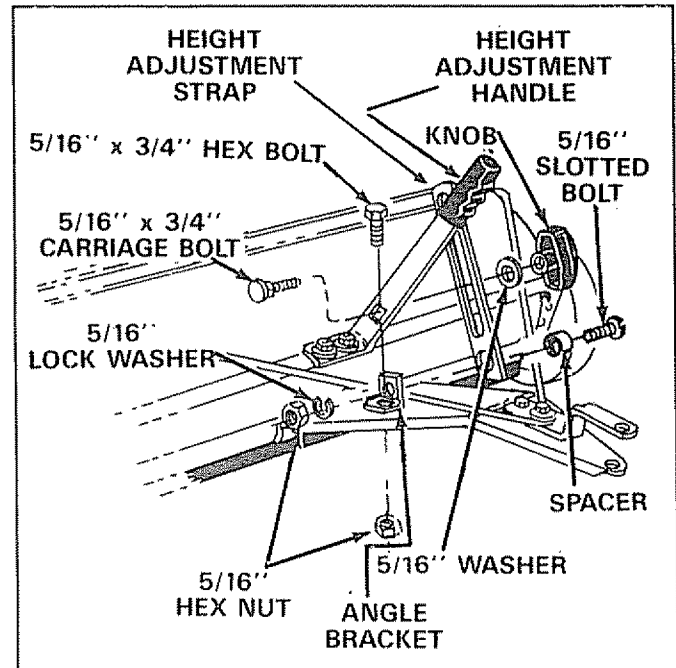

FIGURE 7
7. Assemble the angle bracket to the hitch tongue with long leg up using one 5/16" x 3/4" bolt. Secure tightly with one 5/16" hex lock nut. See figure 7.
8. Assemble the height adjustment strap (hole end) to the angle bracket. See figure 7. Place spacer over end of 5/16" x 3/4" slot head bolt and into large hole on strap. Assemble threaded end of slot head bolt through hole in the angle bracket and secure with 5/16" lock washer and 5/16" hex nut. See figure 7.
9. Assemble other end of height adjustment strap to height adjustment handle. See figure 7. Place slot on strap in line with square hole in height adjustment handle. Secure strap with 5/16" x 3/4" carriage bolt, 5/16" flat washer and hand knob. See figure 7.